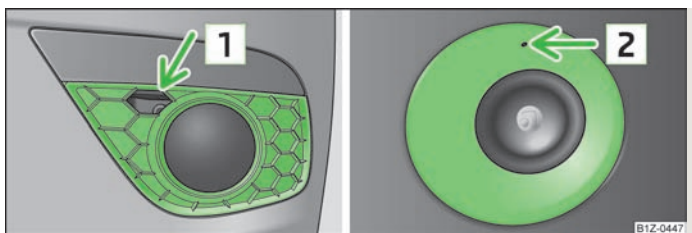

Fig. 168 Front bumper: Octavia RS/Octavia Scout
- › Insert a finger into the opening  » Fig. 168 (Octavia RS) and remove the cap.